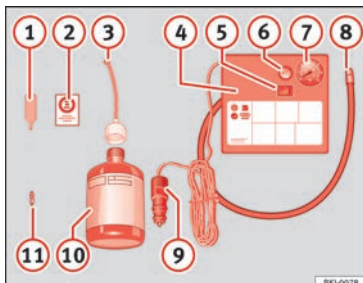

Fig. 104 Standard representation: contents of the anti-puncture kit.
The anti-puncture kit is located underneath the floor covering in the luggage compartment. It includes the following components » Fig. 104:
Screw in the inflator tube » Fig. 104 ⑧ again and check the pressure on the gauge ⑦.